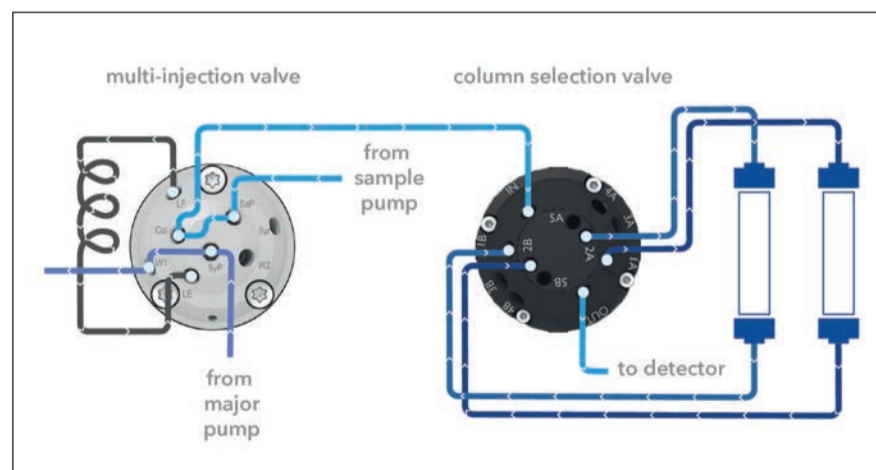

Figure 3: Connection of the column selection valve.
The column selection valve is placed between the multi-injection valve and the UV detector. The column outlet port (Col) of the multi-injection valve is connected via a PEEK capillary with the inlet port (IN) of the column selection valve. The outlet port (OUT) is connected to the UV detector flow cell, which in turn is connected to the conductivity monitor. The columns are installed according to *Figure 3*.